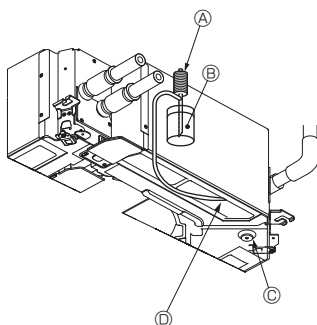

Fig. 5-7
5.3. Check of drainage (Fig. 5-7)